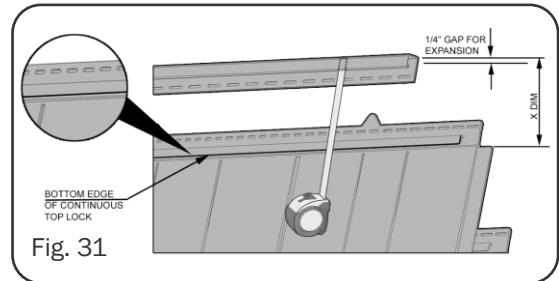

Fig. 31
- First measure from inside of the trim channel on the wall to the bottom edge of the continuous top lock minus 1/4" (.64cm) (Figure 31).